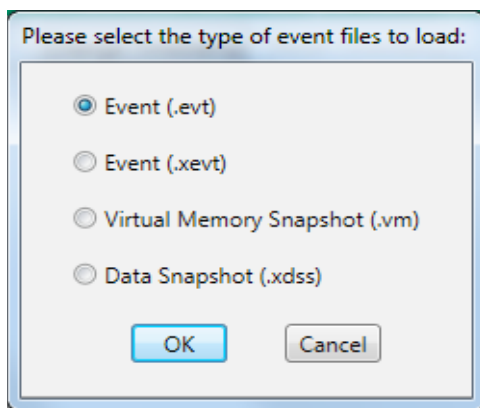

Figure 7. The Event file extension selection dialog box.
- STEP 3.** Select the event file extension to select the type of event files to load. See Figure 7.